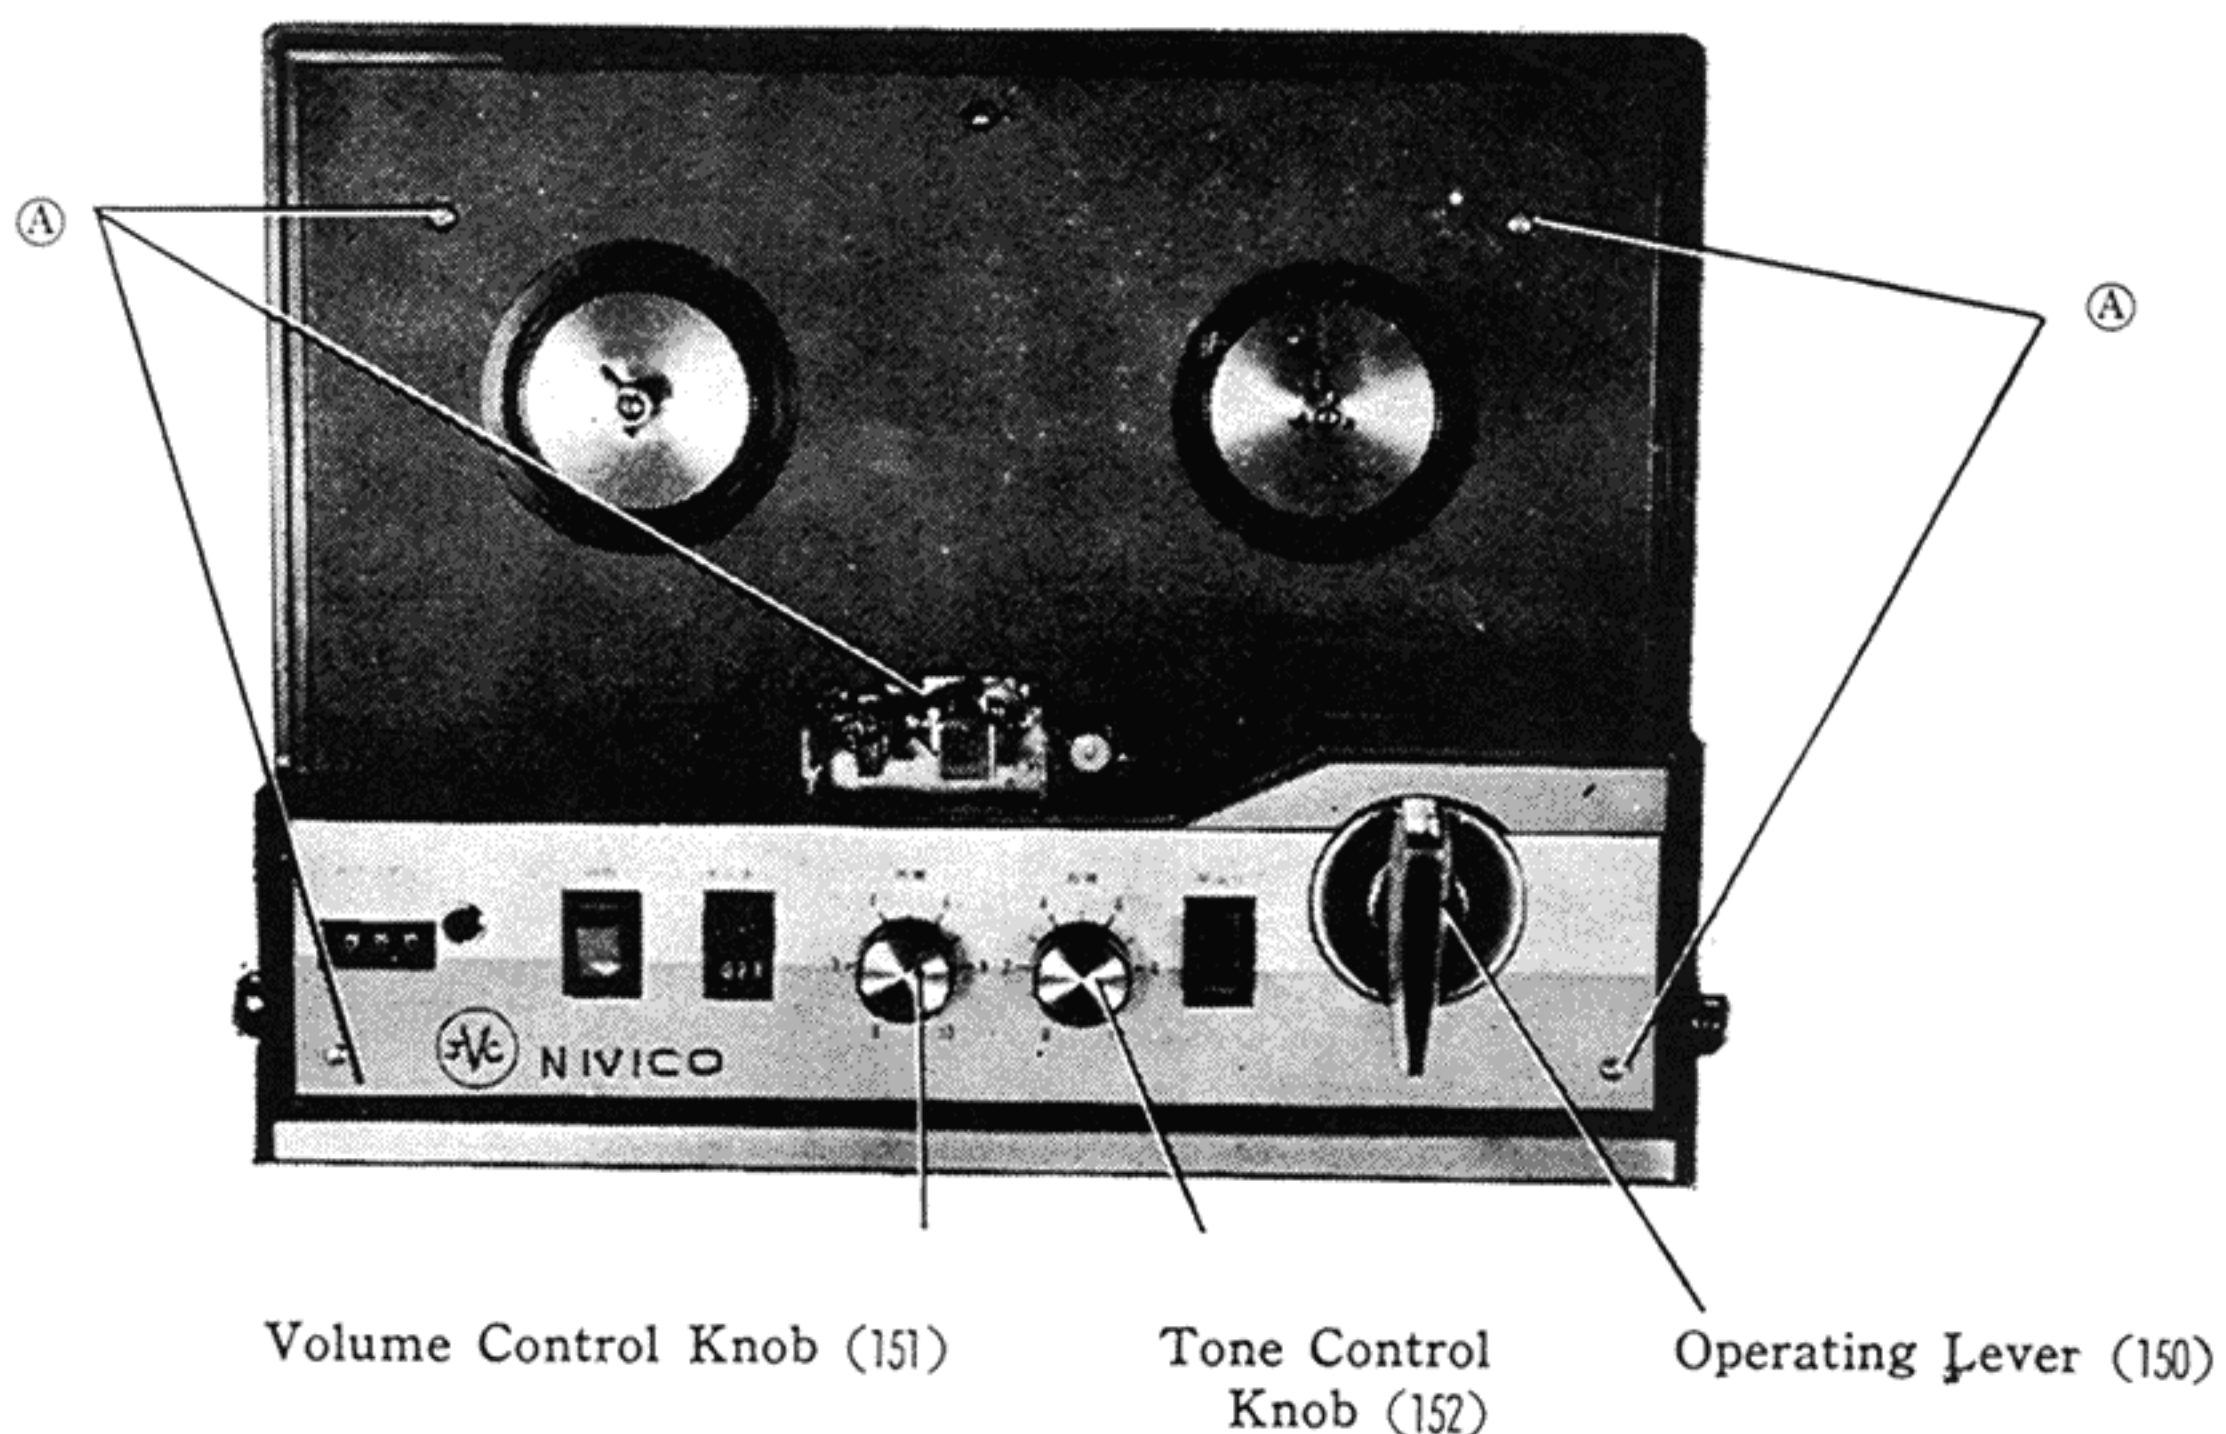

Fig. 1
1. Removal Procedure of Top Panel (Fig. 1)